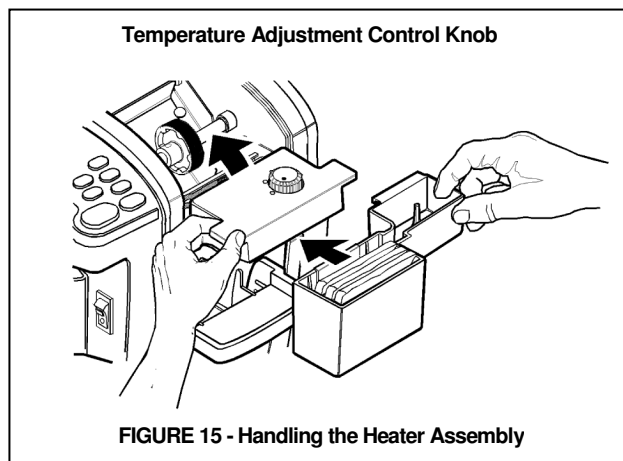

FIGURE 15 - Handling the Heater Assembly
Finding the correct setting for the tape you are using is a matter of simple testing. Turn adjustment knob to highest setting (clockwise), then back off slightly to the lowest temperature setting that best meets your needs. See *Figure 15*. Refer to *Section 3 “Sealing with Gummed Tape”*.
**CAUTION:** The bottom of the heater assembly gets **HOT!** Handle the heater only by the tabs protruding from the sides of its top. See *Figure 15*.